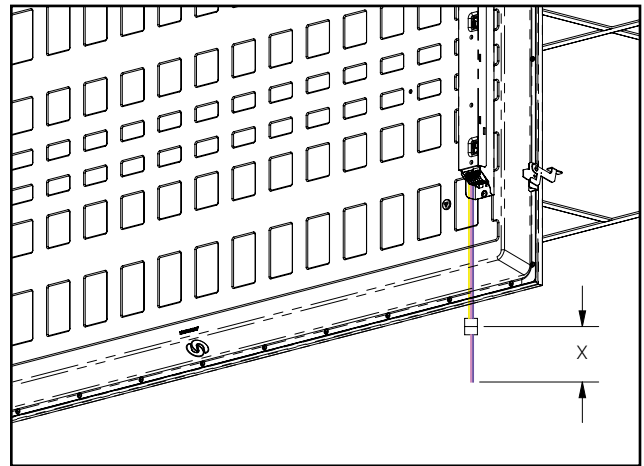

Figure 15.
15. Unplug and discard the wiring segment identified as "X" in Figure 15 from the driver pigtail, then connect the Wavelinx sensor pigtail in its place.